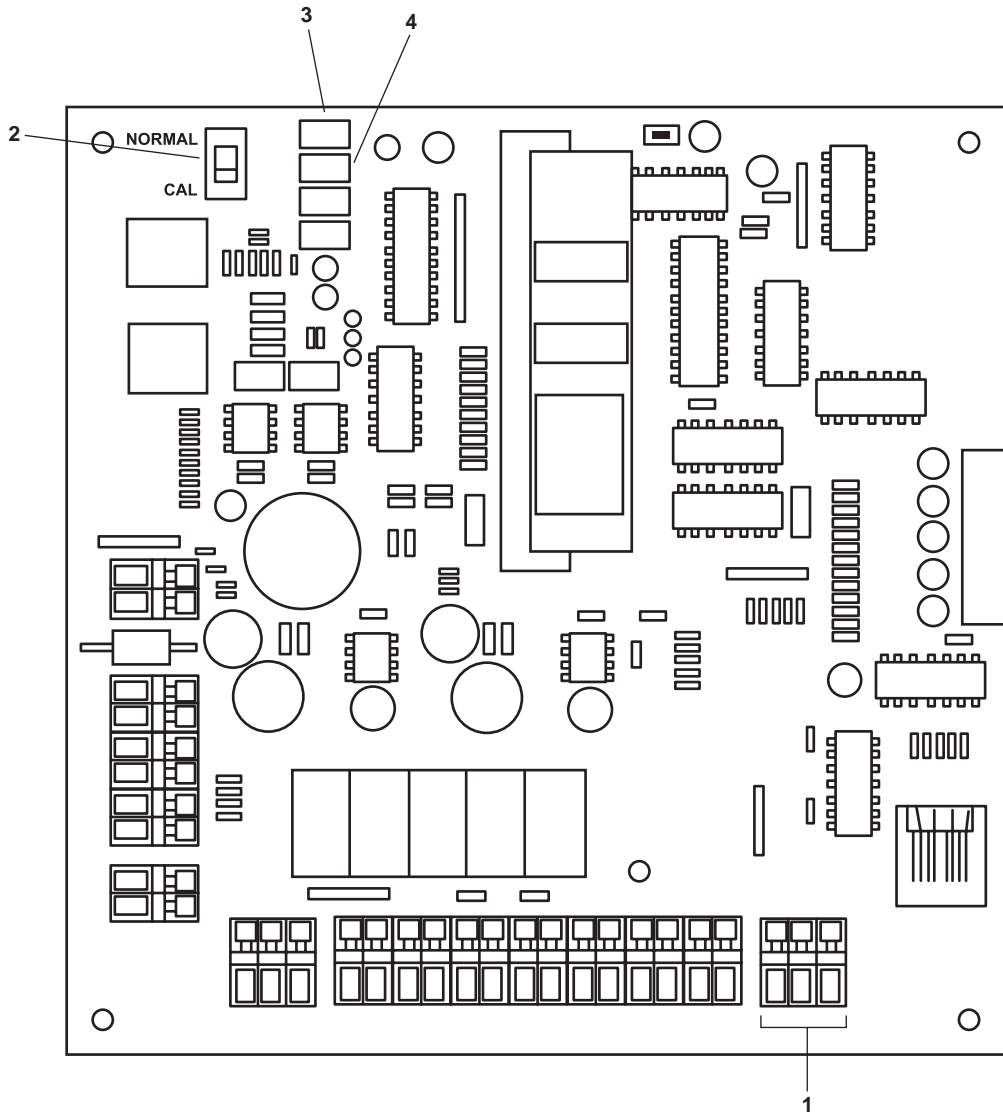

Figure 3. System Controller Motherboard and Connections
7. Inside the system controller, label and disconnect the three electrical leads (figure 3, item 1) that connect the salinity probe to the system controller.
3. Inside the system controller, place the normal/calibrate slide switch (figure 3, item 2) in the CAL position.
6. Rotate the salinity meter potentiometer adjustment screw (figure 3, item 3) until the SALINITY METER (figure 1, item 5) on the system controller reads full scale with the red LED flickering on and off (1000 ppm).
9. Inside the system controller, rotate the 3-way trip point potentiometer adjustment screw (figure 3, item 4) until the SALINITY METER (figure 1, item 5) reads full scale with the red LED flickering on and off (1000 ppm).
11. Place the normal/calibrate slide switch (figure 3, item 2) in the NORMAL position.